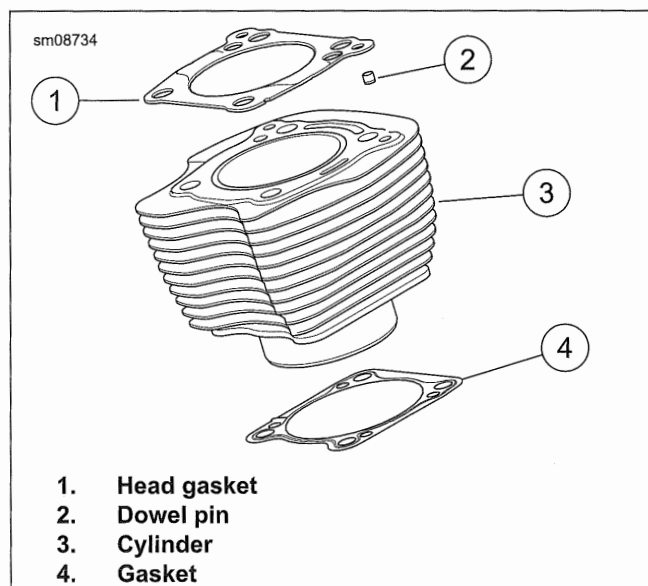

Figure 4-35. Cylinder Assembly
3. See Figure 4-35. Discard gasket (4).